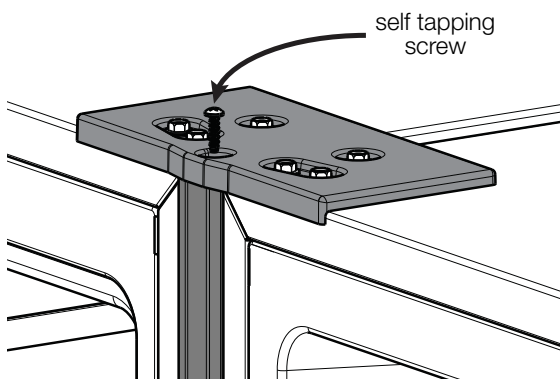

Figure 16
- Fasten the centre trim to the top-front bracket using the provided self-tapping screw. (Fig. 16)